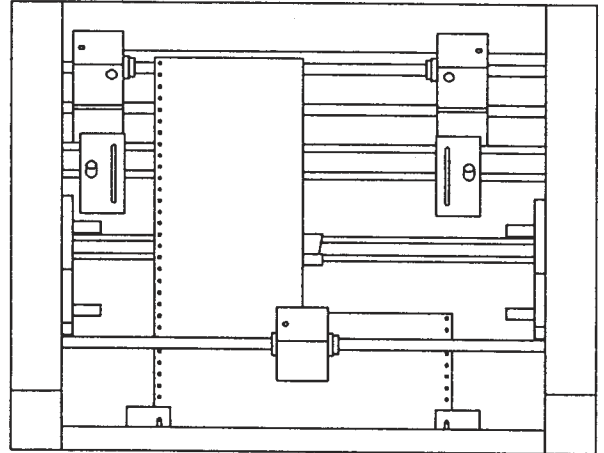

Fig. 15
2. Adjust center slitter to the middle of the forms. (Fig. 15)